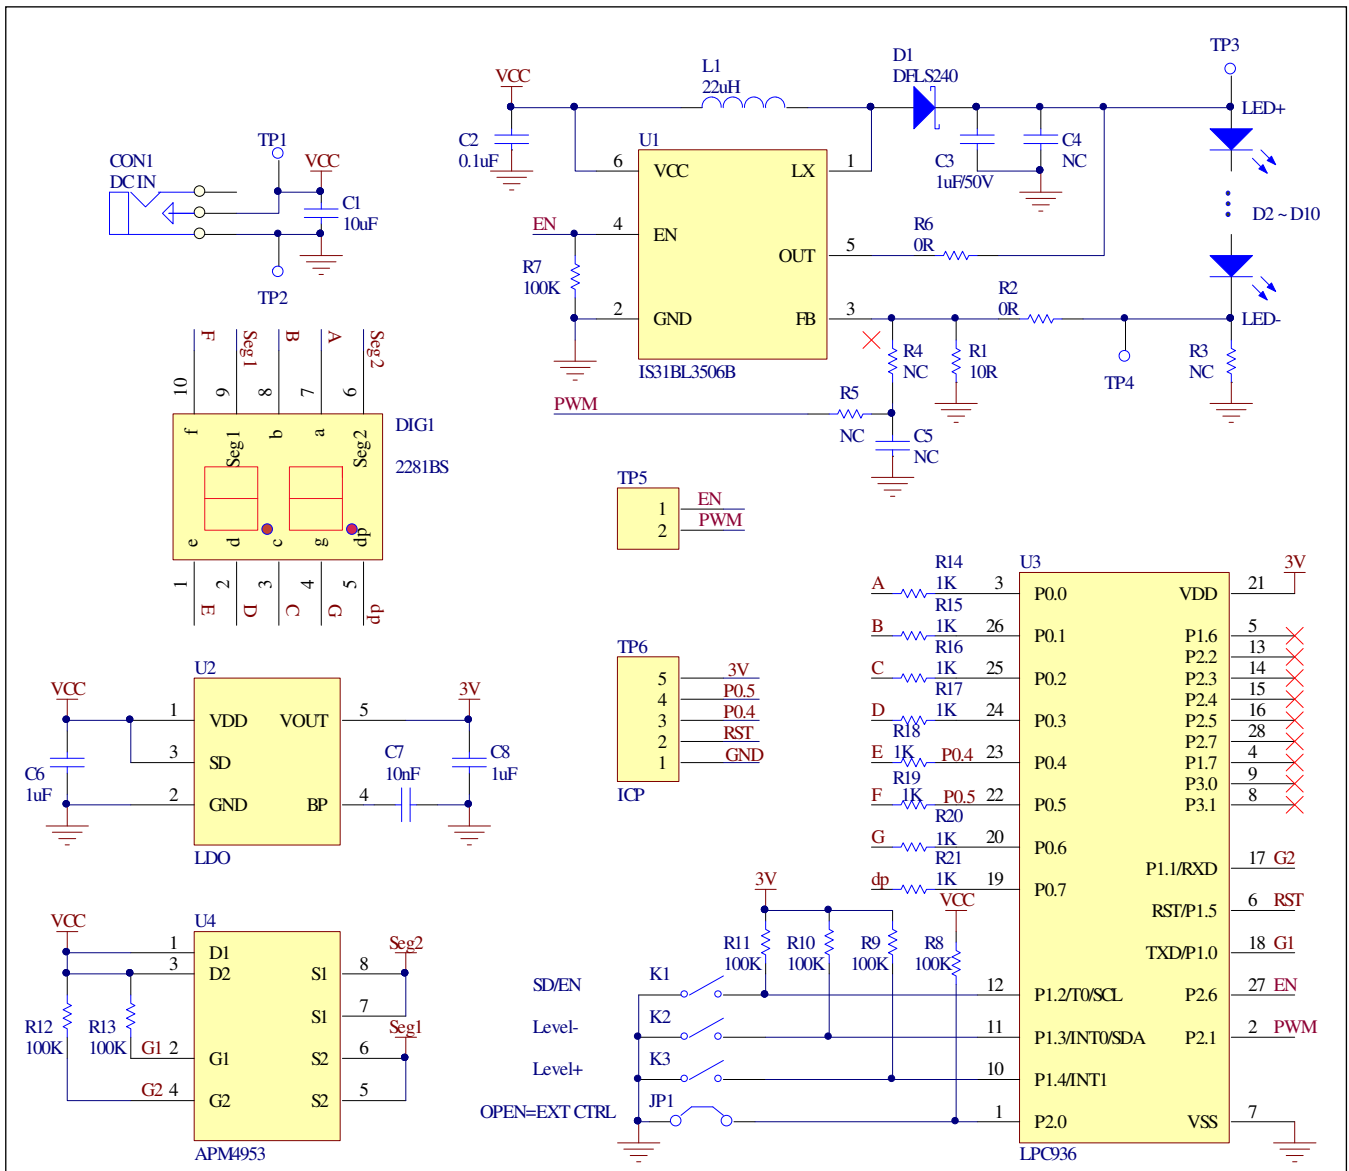

Figure 2: IS31BL3506B Application Schematic
*Bill of materials, refer to Figure 2 above.*